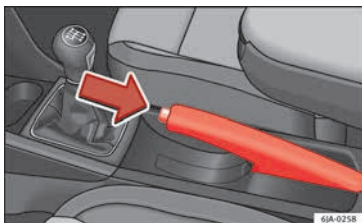

Fig. 175 Centre console: handbrake.
- Pull the handbrake lever up slightly and press the unlock button **at the same time** » Fig. 175.